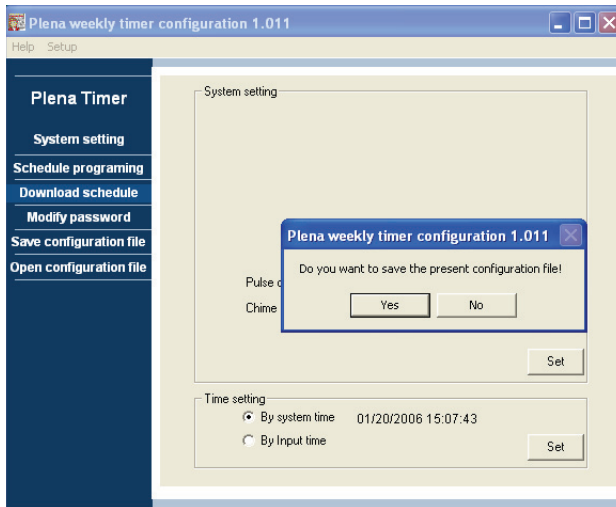

figure 8.18: Download schedule dialog box
- 1 From the main menu, click the Download schedule button. The following dialog box will appear (see figure 8.18).